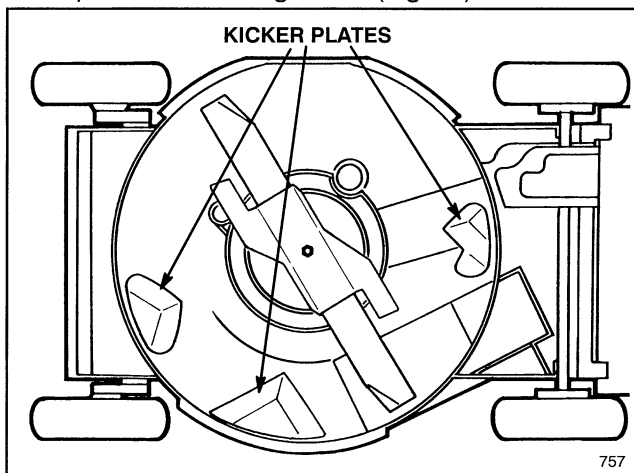

Figure 32
Keep underside of mower housing clean. Be especially careful to keep kickers free of debris (Fig. 32).
3. Tip mower on its right side (Fig. 32).